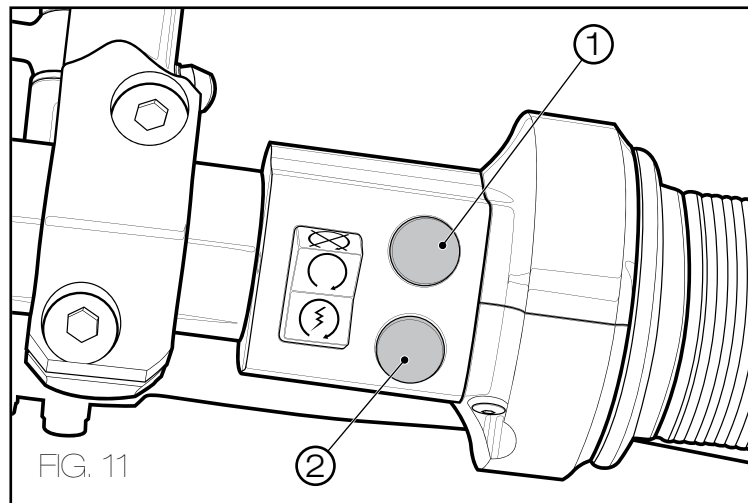
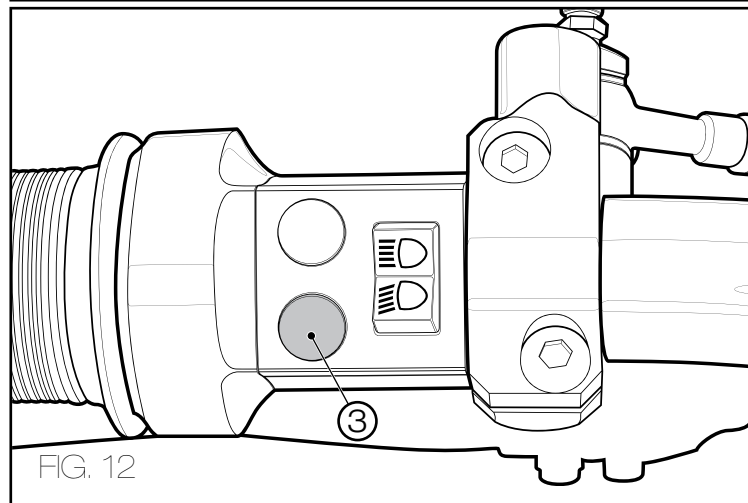

FIG. 11
FIG. 12
If you wish to change the units of measure open the principal menu then select 'Units', you then have the choice between the display in mph or km/h. Hold down button (1) to validate (Fig. 11)
The contrast can be regulated by using the buttons (2 Fig. 11) and (3 Fig. 12), each flash of the indicator corresponds to a value. To increase or diminish the contrast push on the button (2 Fig. 11) or (3 Fig. 12) then validate by pushing the same button again.